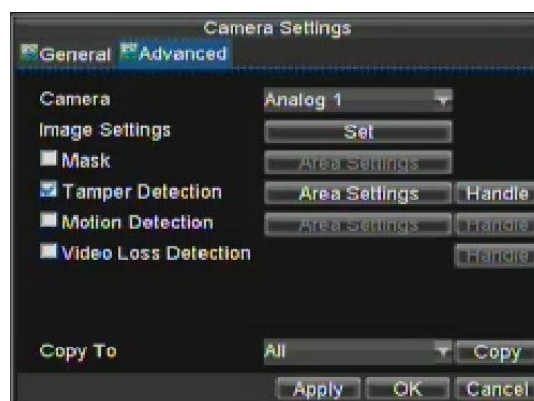

Figure 13. Camera Settings Menu
4. Check the **Tamper Detection** checkbox, as shown in Figure 13.